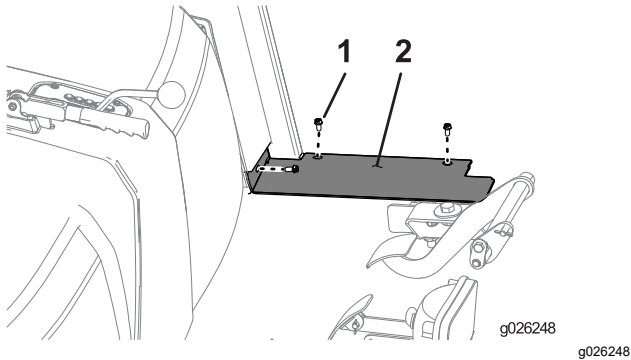

Figure 45
1. Install the floor-plate panels on each side of the machine using 3 bolts (1/4 inch) as shown in Figure 45.